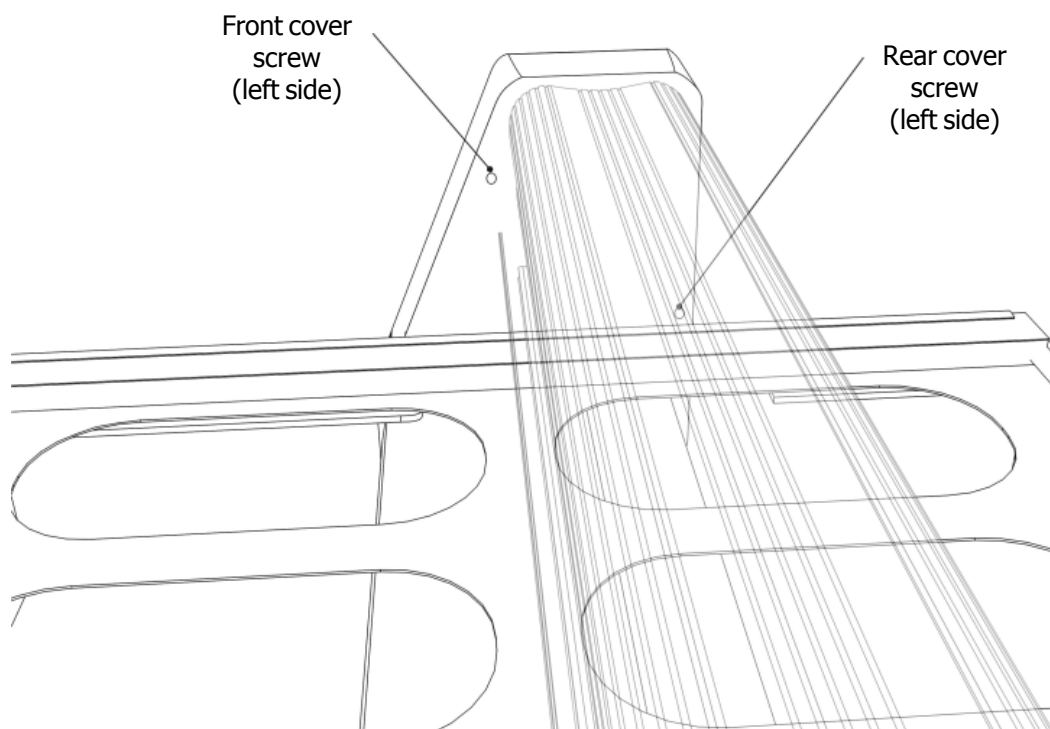

Fig. 5-3 Left side cover screws (Black Phillips head)
3. Remove the two black phillips head screws, and remove the left cover. *See figure 5-3 on the next page.*